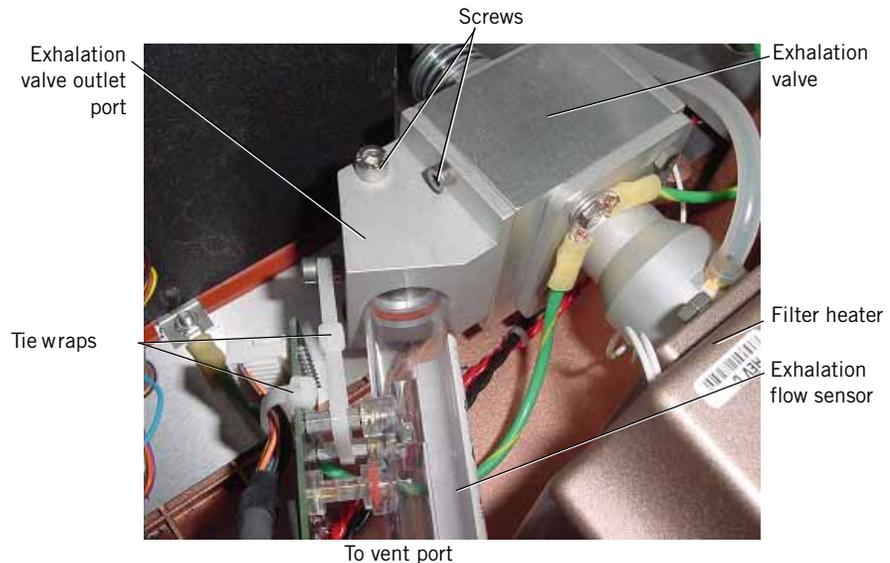

Figure 10-39: Exhalation Flow Sensor
3. Cut the tie wraps that hold the exhalation flow sensor to the exhalation valve and to the EXH F/S cable (Figure 10-39).
- Connect the EXH F/S cable to the flow sensor and fasten it with a tie wrap. See Figure 10-39 for tie wrap positioning.